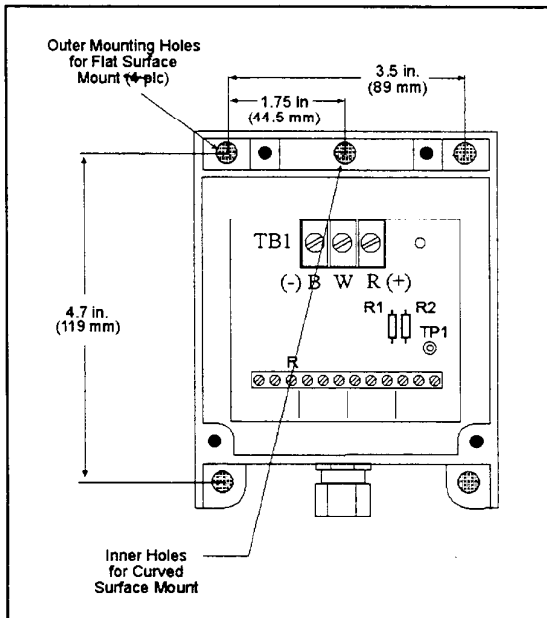
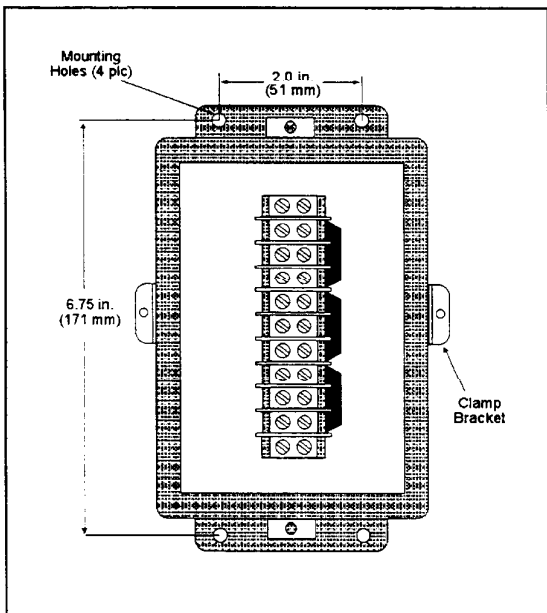

Figure 2-17. Plastic Junction Box Mounting Holes.
Figure 2-18. Stainless Steel Junction Box Mounting Holes.
1. If mounting a plastic junction box (Figure 2-17), remove the cover. This is not necessary if mounting a stainless steel junction box (Figure 2-18).
2. Hold the junction box on the desired mounting location. Use a pencil to mark the four outer junction box mounting holes on the flat surface. If you are mounting a plastic junction box on a pipe leg or curved surface, use the two center mounting holes to mount the j-box (Figure 2-17).